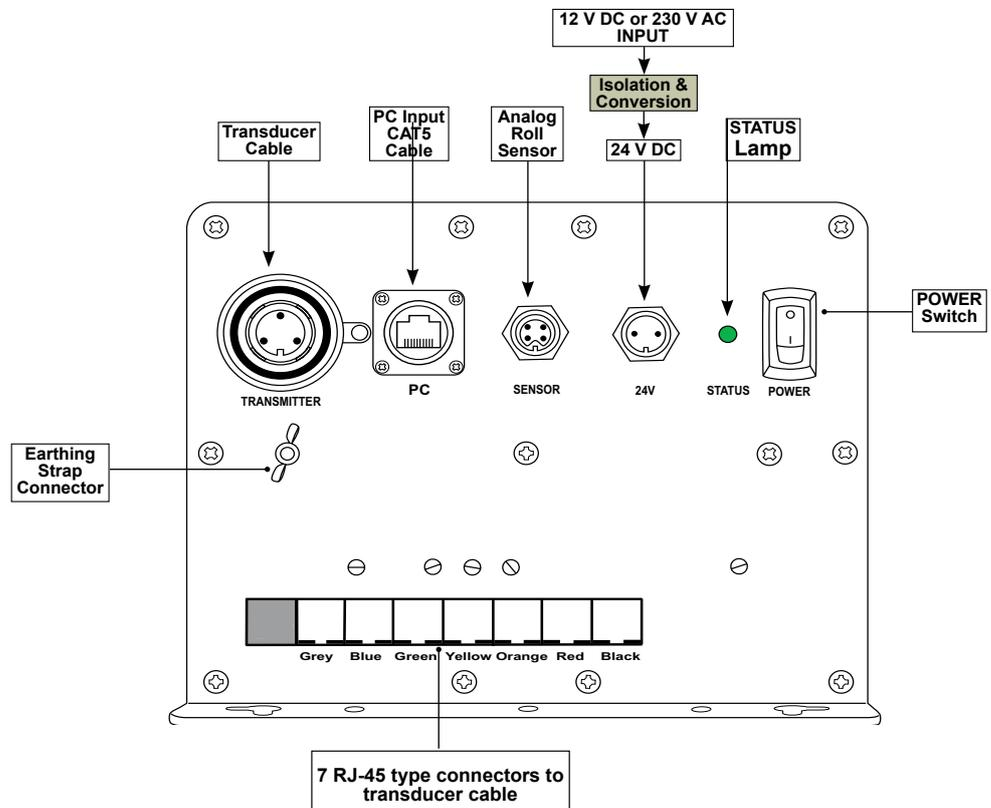

Figure 3 – Transceiver Controls and Indicators
**User Interface** When the WMB-160F program starts up, a Navigation Warning screen similar screen to the one shown in Figure 3 is displayed.